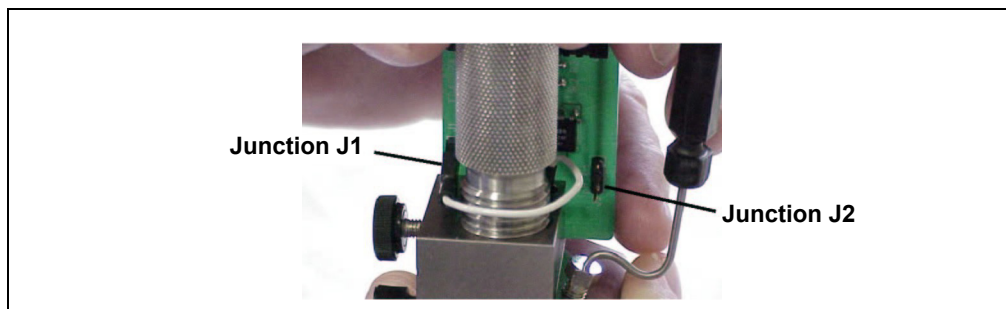

Figure 5-7. Reference Electrode Electronics Card Junctions J1 and J2
3. Locate the reference electrode connector (J2) on the cell pre-amp board (see Figure 5-7). Short the two pins of the connector together, using a short piece of wire or a metal clip. **Do not allow the wire or metal clip to contact the cell body or any other conductor.**
- d. Connect the J2 connector to junction J2 on the electronics card and verify that the white working electrode lead wire is connected to junction J1 (see Figure 5-7).